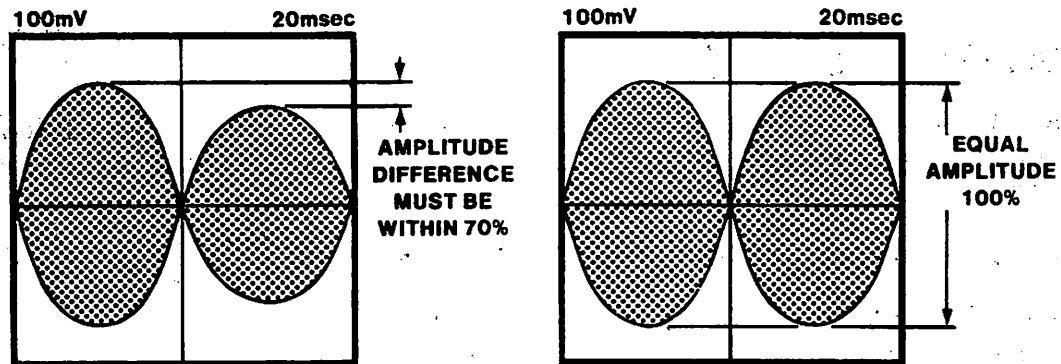

Figure J-2. CATS EYE Alignment Pattern
- 3) Step heads to Track 16 by pressing the '5' key. Adjust the oscilloscope to display the CATS EYE Pattern. Verify that both lobes (CATS EYES) are within 70% of each other (figure J-2).
- c) Check adjustment by stepping to track 00 by pressing the '1' key, then step the heads to track 16 by pressing the '5' key. Verify that both lobes (CATS EYES) are within 70% of each other (figure J-2).
- d) Now, check adjustment by stepping to track 40 by pressing the '6' key, then step the heads to track 16 by pressing the '5' key. Verify that both lobes (CATS EYES) are within 70% of each other (figure J-2).